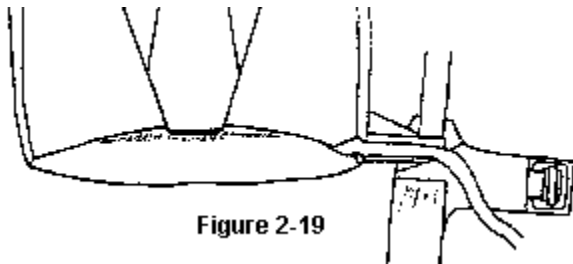

Figure 2-19
Step 24 Close the pin protector flap as shown in *Figure 2-19*.